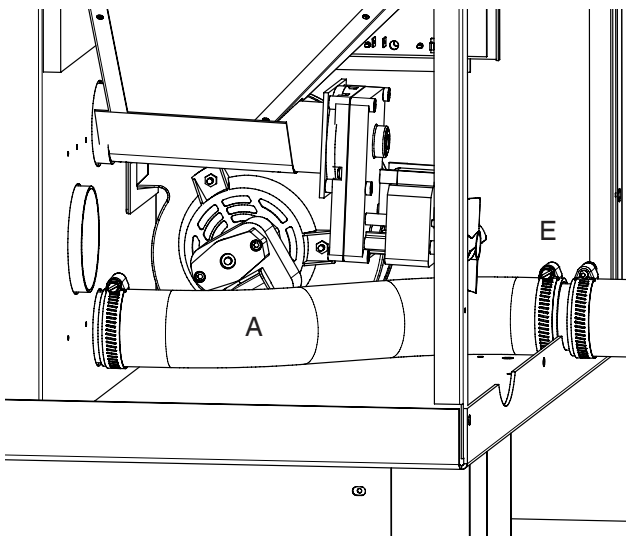

Figure 3
7. Attach one of the 2" flex hoses to the backside of the firebox, then to air inlet pipe at the back of the stove as shown in figure 3.
8. Stretch the 2" flex hose to the air inlet on the back of the stove. Attach using the other 2" hose clamp. See Figure 3. ( The hose will extend up to 4 feet in length. )
**Figure 3 shown with Exhaust Housing